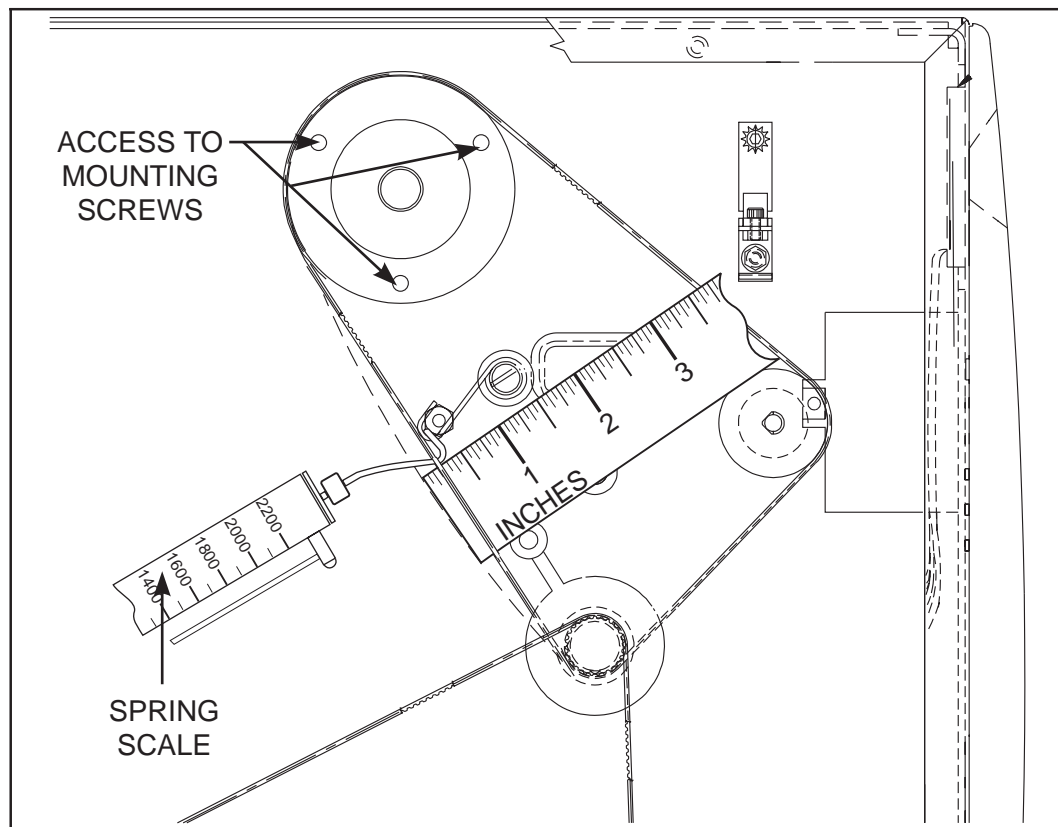

Figure 5.20 90/140/170Xill Main Drive Belt
3. Refer to Figure 5.20 and rotate the Ribbon Take-Up Pulley until the 3 holes in the Pulley are aligned with the 3 mounting screws which hold the Ribbon Take-Up Spindle Assembly to the Printer Frame.
7. Hook a 2200 gram spring scale to the belt as shown in Figure 5.20, and carefully slide the Ribbon Take-Up Spindle Assembly to the left to increase belt tension.